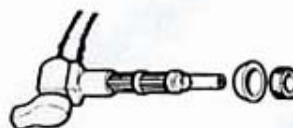

Fig. 5
- Remove the fuel tap (14mm open wrench). Make sure the rubber seal is in good condition (fig. 5).